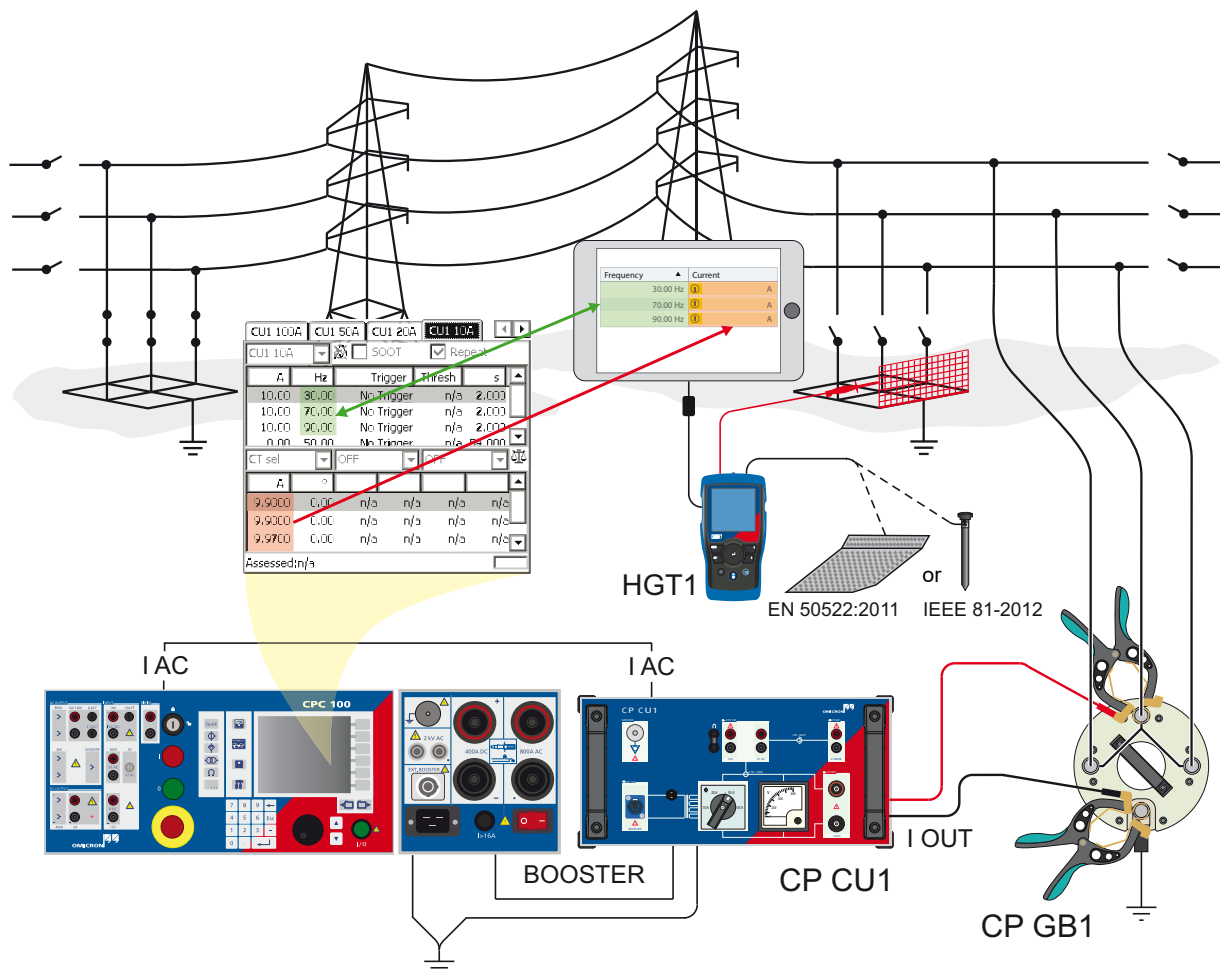

Figure 8-9: Step and touch voltage measurement setup when using *PTM* on a tablet
2. If criterion 3 is met, establish the measurement setup as shown in Figure 8-9 below.